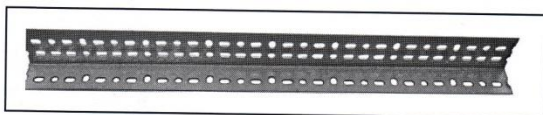

Figure 4-180 Dexeion Angle-Iron (Perforated Steel)
Installation of seat belts will vary, depending on the body style. Coupes and Town Sedans can be installed the same way, to the seat metal frame. The Tudor Sedan requires the seat belts to be anchored through the floor to the body cross frame. A length of perforated Dexeion angle-iron can be used to backup sheet metal or wood anchoring points for added strength (Figure 4-180). Rear seat belt installation is not shown, but can be installed in the same manner as the front seat belts.
4. Anchor bolts for Coupe installation will protrude into the trunk or rumble seat area. A strip of perforated Dexeion angle-iron (Figure 4-180) can be bolted across the back of the seat frame on the trunk/rumble seat side to add strength to the anchor point.